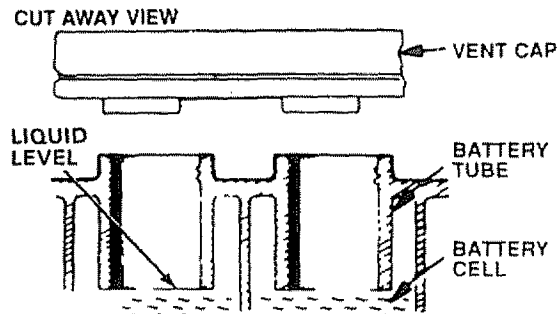

FIGURE 1
- Fill battery with battery acid to bottoms of tubes in cells (Fig. 1) NOTE: DO NOT OVERFILL. OVERFILLING WILL RESULT IN DAMAGE TO TRACTOR.